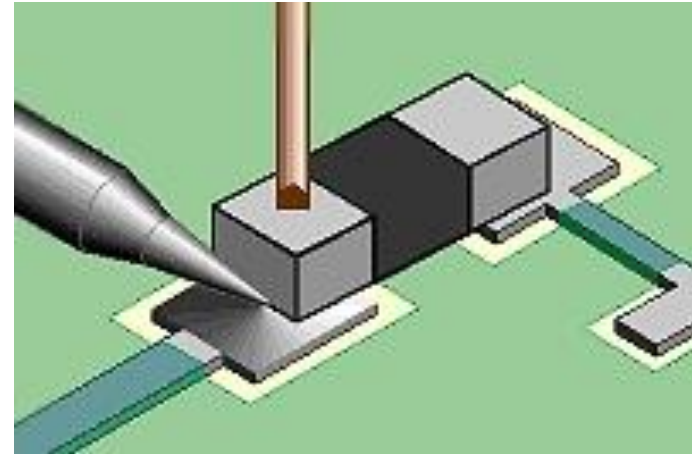

Figure 2:
- **Flow the solder until the component drops down and is soldered in position. Apply additional solder as needed. (See Figure 2).**